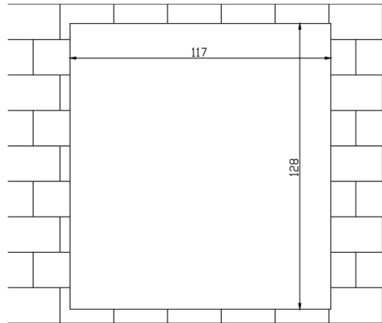

Figure 2-5
- Step 1** Dig a hole on wall, its dimension is 117*128*80(mm). See Figure 2-5.